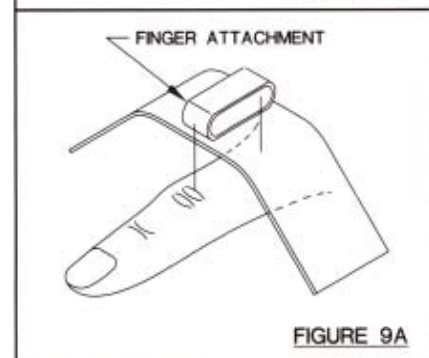

FIGURE 9A
- 2 For isolated MCP mode, affix finger attachments to the dorsal aspect of the proximal phalanx see **Figure 9A**.